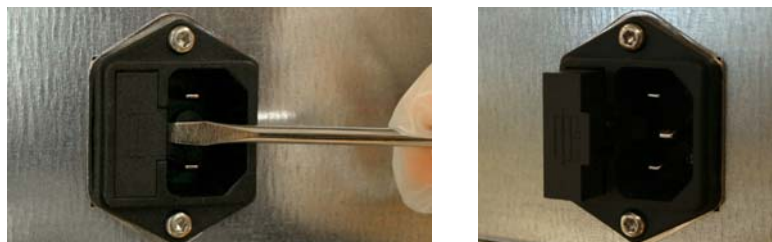

Figure 5-8. Loosen the Fuse Holder
4. Loosen the fuse holder by carefully prying under the notch on the left side of the holder with a small standard (flat blade) screwdriver; see Figure 5-8.